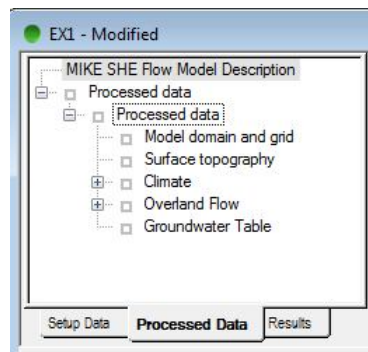

Figure 124: Processed data tab
- Click the 'Processed data' tab (See Figure 124)